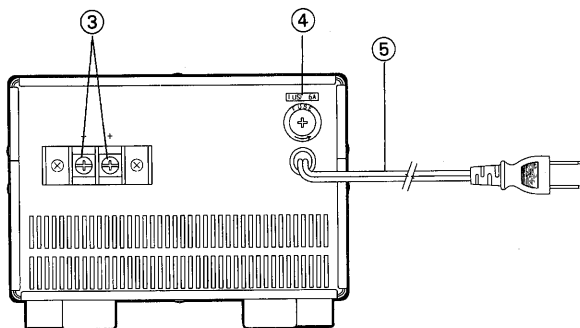

Fig. 4-2. Rear Panel
Fuse Holder is located on rear panel for U.S.A. version as Fig. 4-2. ④.